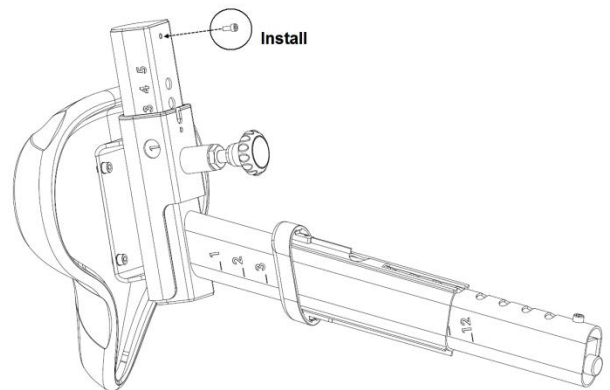

Fig. 18
17. Locate the seat slider and mount the assembly (Fig. 18) onto the seat post by sliding the post into the seat slider while pulling on the pull pin under the seat slider.